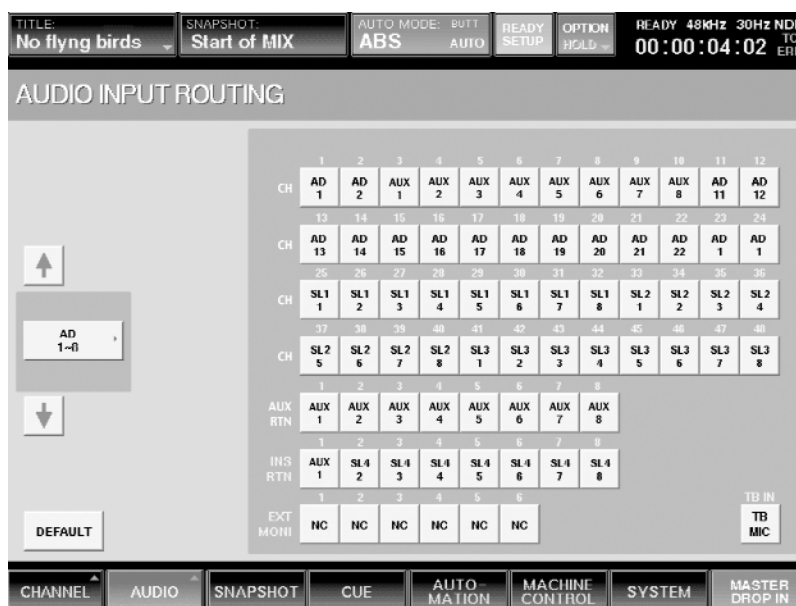

Figure 30
- 8 From the drop-down menu, press 1, then press the INS RTN 1 button in the Channels section (right-hand side of the screen). Aux 1 will be selected for Insert Return 1. (See Figure 30)